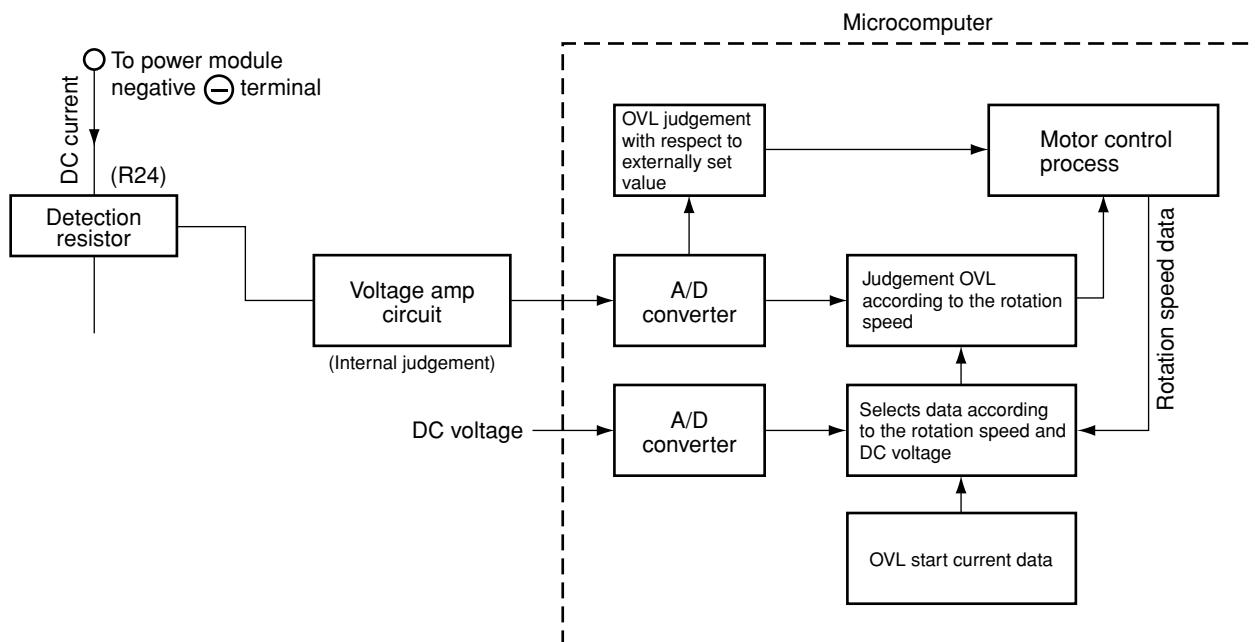
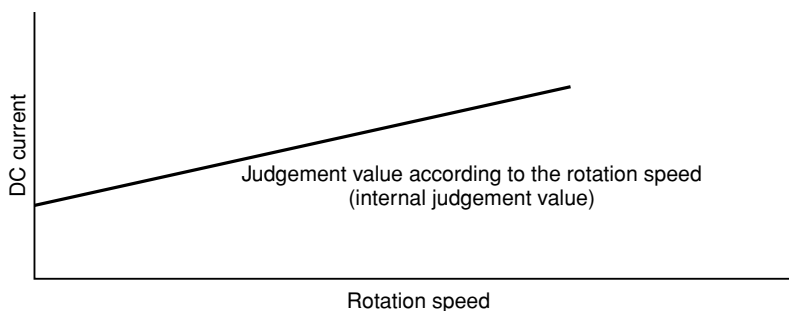

Fig. 8-4 Overload Control System Configuration
Fig. 8-5
- As shown in diagram, if current exceeding 27A flows, voltage at point A recognized by detecting resistor is input to pin ⑩ of SPM2 – HIC, and voltage divided by R41 and R43 is input to pin ⑨ of IC1. Since threshold of IC1 is exceeded in this case, Lo signal is input from pin ⑧ (Voltage at point B). When Lo signal is input to pin ⑰ of microcomputer, microcomputer stops drive output.
(2) Overload control circuit (OVL control circuit)
- Fig. 8-4 shows the overload control system configuration and Fig. 8-5 is a characteristic diagram of overload judgement values. There are two judgement methods-external judgement which compares the externally set value with the DC current value regardless of the rotation speed and internal judgement which compares the set value that varies according to the rotation speed programmed in the microcomputer software with the DC current value.